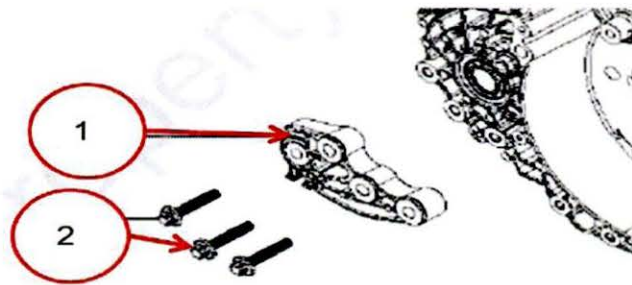

Fig. 11 Rear Transaxle Mount
35. Secure rear mount bracket bolts to transaxle (Fig. 11). Torque the bolts to 110 NM (81 ft. lbs.).